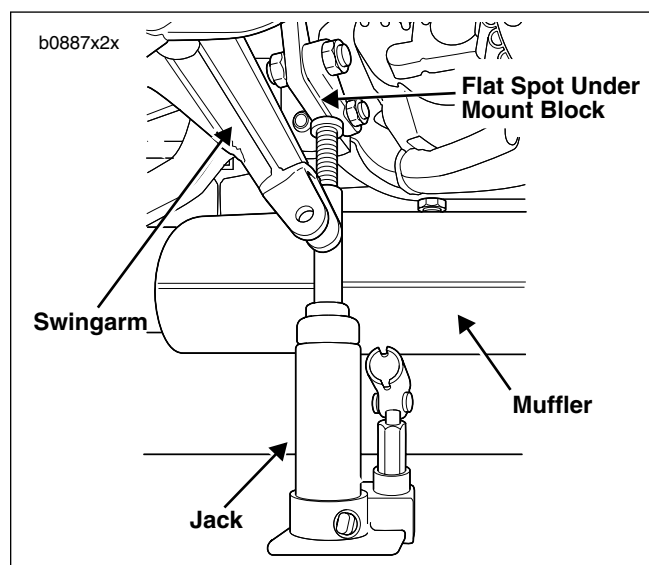

Figure 1. Jack Location on Mount Block (Shock Removed for Clarity)
4. See Figure 1. Place a suitable jack under the swing arm mount block and raise until crankcase is supported by jack.